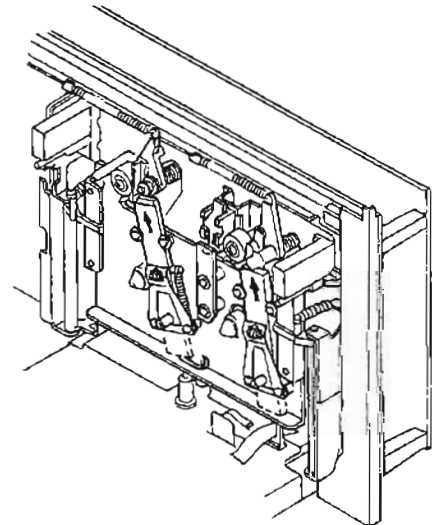

Fig. 2.8
2.6. Erase Head Stroke Adjustment and Tape Guide Height Check Remove the Head Mount Base Assy. Refer to Figs. 2.8 and 2.9.